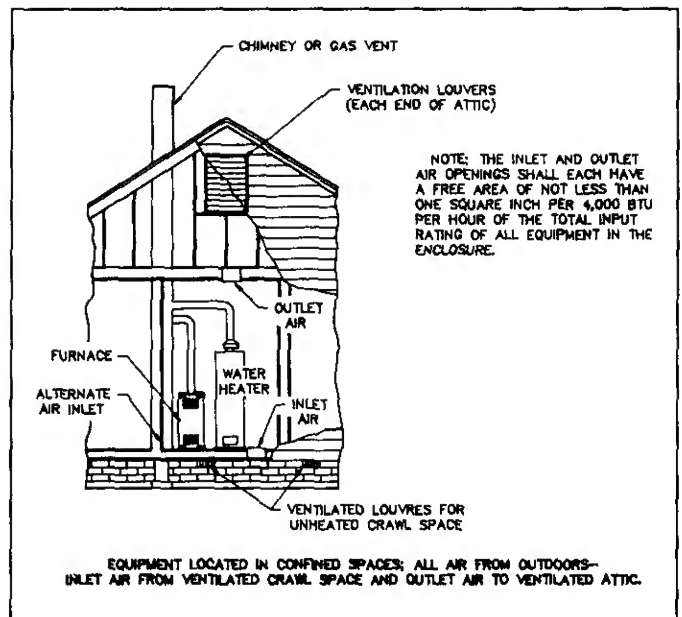

FIGURE 13B
4. If combustion air ducts will run vertically, ducts and each opening must have a minimum free area of one square inch per 4,000 Btuh total combined input rating. You must allow for all gas appliances within the furnace space. See Figure 13B.